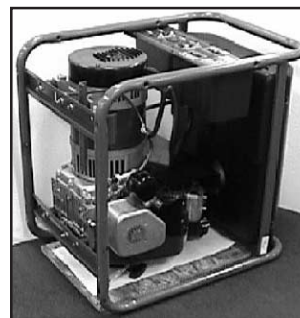

Figure 2
- Place a 1" thick x 1' square piece of wood on the ground in front of the engine. With the help of another person, tilt the generator and rest the recoil starter on the wood. See Figure 2. **NOTE:** This will support the gasoline engine during assembly and make assembly easier.